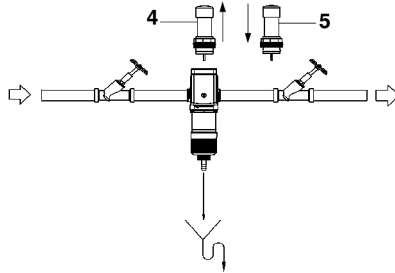

Figure 10. Cartridge exchange III
4. Lift the empty phosphate cartridge (4) out of the device (see Figure 10).
5. Insert the new phosphate cartridge (5) into the device.